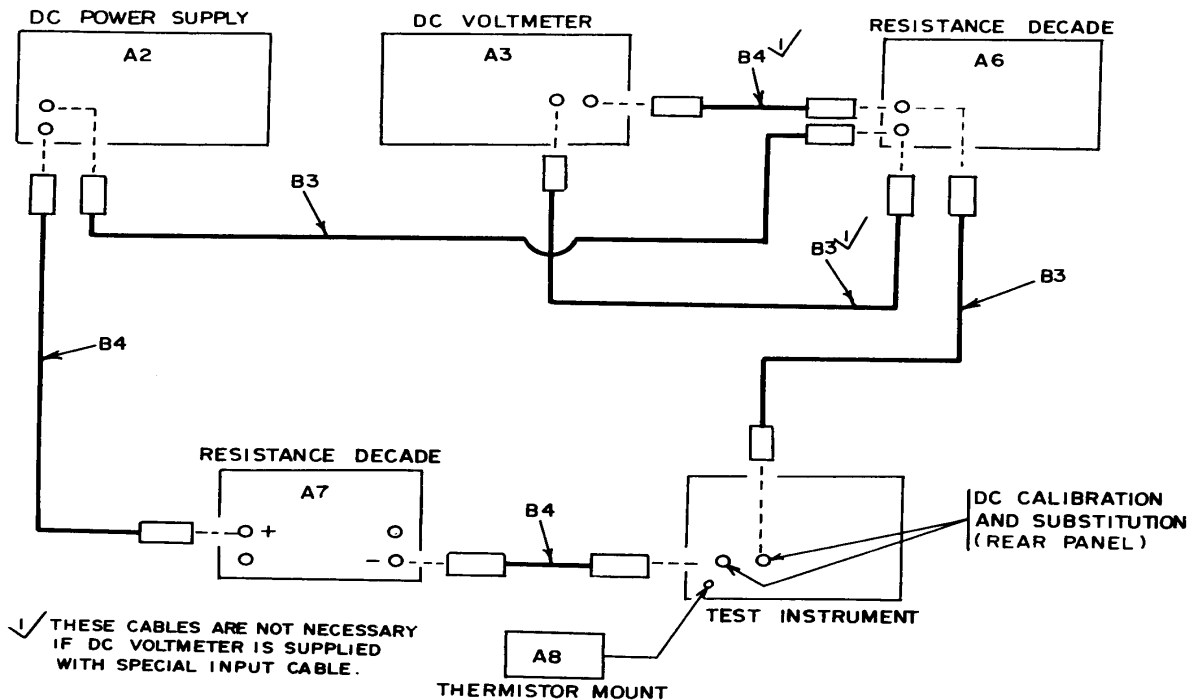

Figure 4. Range and tracking check without power meter calibrator.
- (1) Connect the equipment as shown in figure 4.
- (2) Set resistance decade (A7) to 10 kΩ. This 10 kΩ value can be decreased as necessary to obtain full scale indication on TI.
- (3) Set resistance decade (A6) to 1000 ohms.